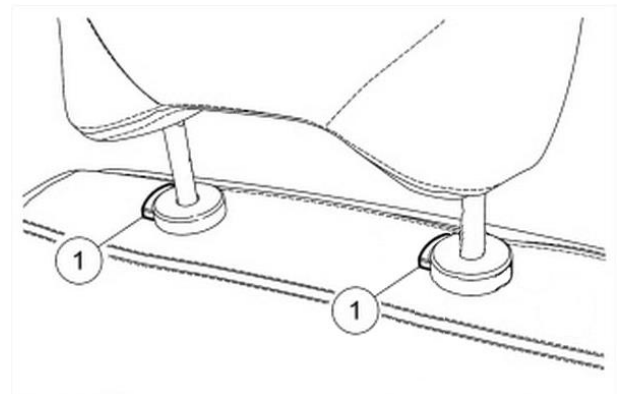

Figure 1 – Headrest
6. Remove front seat head rests by depressing the release buttons and pulling up on the headrest to remove from the seat (Figure 1).